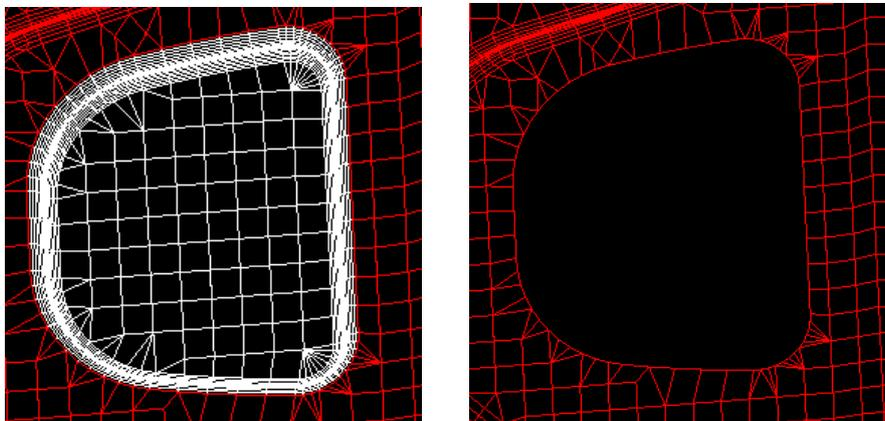

Figure 5.66 Delete elements
45. From the menu bar, select **Preprocess**→**Element**. Click  icon, following by using the **Multi-Point Region** function to select the highlighted elements in Figure 5.66